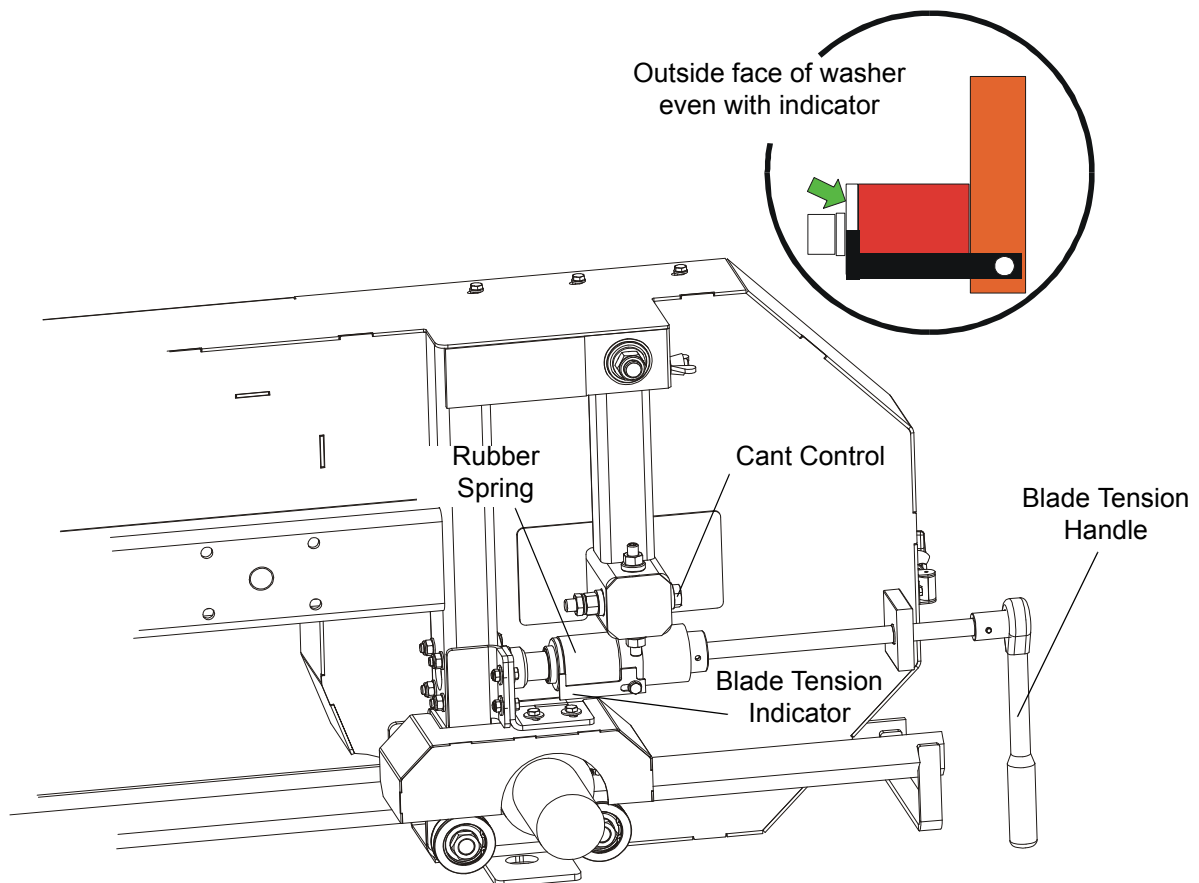

FIG. 3-11
See Figure 3-11. Turn the blade tension handle clockwise to compress the rubber spring and tension the blade. Check the blade tension occasionally when adjusting the cant control or while cutting. As the blade and belts heat up and stretch, the blade tension will change. Also, ambient temperature changes can cause tension to change. Adjust the tension handle as necessary so that the indicator is parallel to the blade guide arm.
5. Use the cant adjustment bolt, shown in **Figure 3-11** to adjust where the blade travels on the blade wheels.